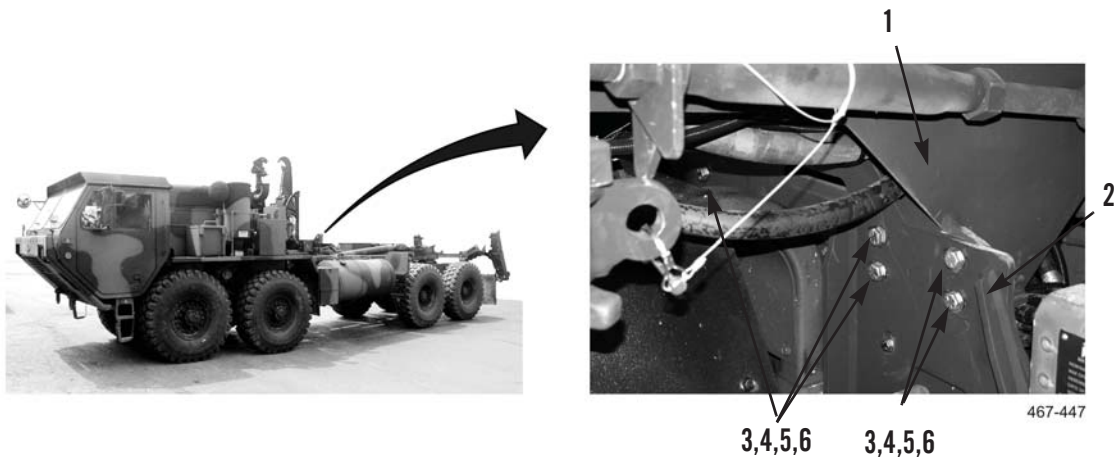

Figure 6. HEMTT Stowage Assembly Installation.
11. Use lifting device to place stowage assembly (Figure 6, Item 1) on frame between support brackets (Figure 6, Item 2). Align holes in stowage assembly with holes in support brackets.
12. Install six washers (Figure 6, Item 4), bolts (Figure 6, Item 3), washers (Figure 6, Item 5), and locknuts (Figure 6, Item 6) on support bracket (Figure 6, Item 2).